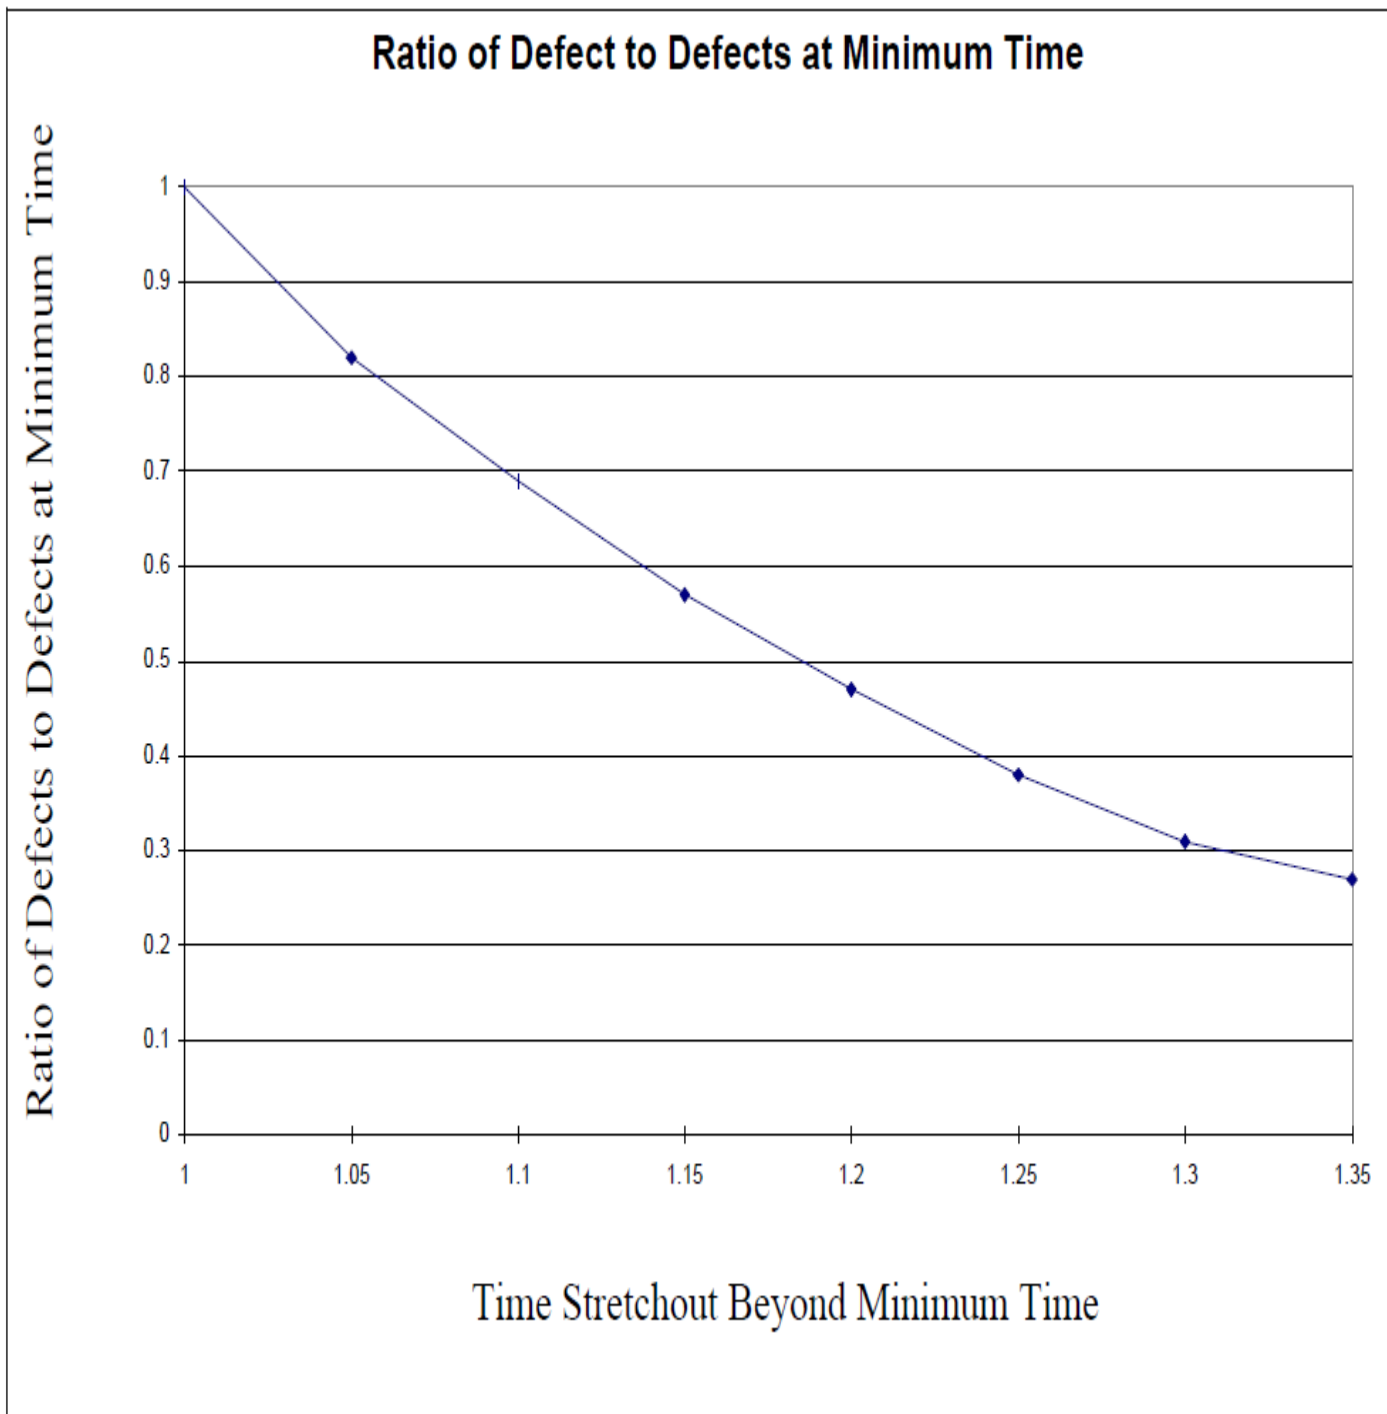

Figure 3.
*Time.* You can reduce effort and employ smaller teams by planning a development time greater than the minimum development time, as we have discussed in previous columns. Planning three more months on a project with a minimum development time of 12 months, for instance, amounts to a 25 percent increase in schedule. That reduces the defects to less than half of what they would have been at the minimum development time, as shown on Figure 3. Really, this tradeoff is just common sense. When people are rushed, and that is the case at the minimum development time, they make more errors. That's how the male half of the development community nick their faces shaving!